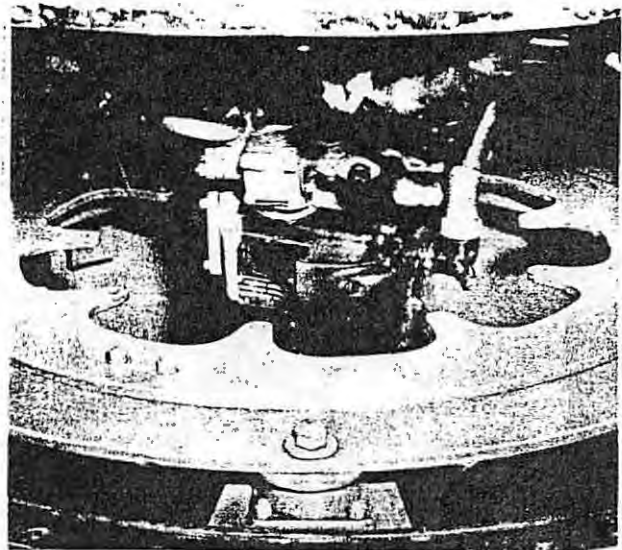

Figure 5-5. Avoid Striking Moving Plate Projections
g. Raise the engine carefully from engine shipping container, exercising care to prevent engine from hitting mounting plate (see figure 5-5), with resultant damage to engine.